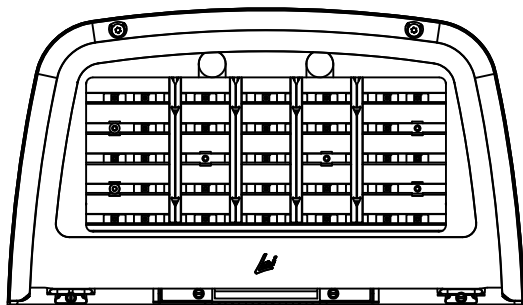

FIGURE 8
9. WHILE KEEPING THE MOUNTING ARM PINS IN THEIR SLOTS, MOUNT THE LUMINAIRE TO THE WALL MOUNTING PLATE BY SLIDING FROM TOP TO BOTTOM OVER THE PLATE. SEE FIGURE 8. NOTE: MAKE SURE NO WIRES ARE PINCHED IN WIRE GROMMET!